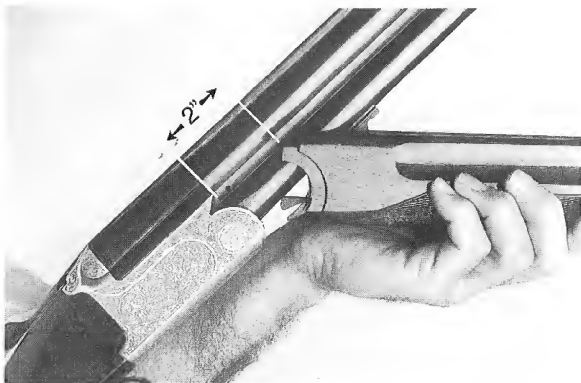

Fig. 4
8. To attach the forearm to the barrels, hold the gun by the barrels resting the butt stock on your thigh. Slide the forend assembly onto the barrels, starting 2" from the receiver radius as shown in **Fig. 4.**